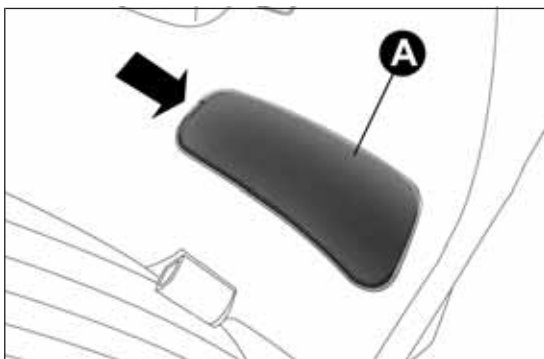

fig. 146
- ❑ open the boot and remove the cover A fig. 146 using a screwdriver in the point indicated by an arrow;
- ❑ refit the bulb holder assembly positioning it correctly, fasten screw C and then fix it by means of the retaining tab B. Reconnect connector A then refit cover A fig. 146.